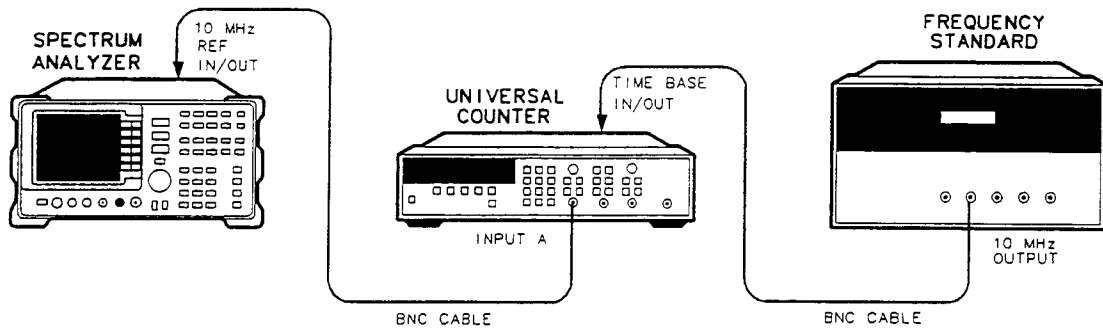

Figure 3-2. Frequency Reference Accuracy (Option 003) Test Setup
10. Connect the equipment as shown in Figure 3-2.
1. After a 60 minute cool-down with power off, connect the equipment as shown in Figure 3-2.